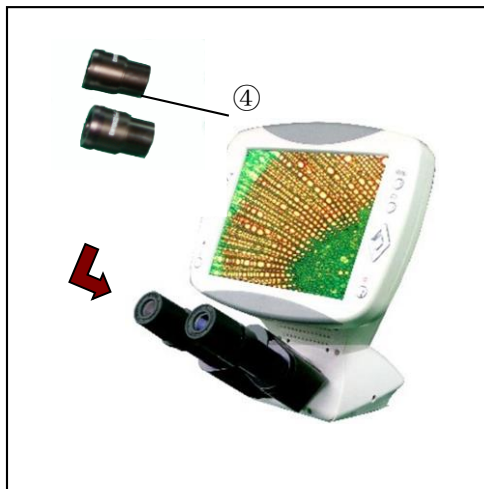

Fig 2
2.2.2 Installing eyepiece (fig 2)